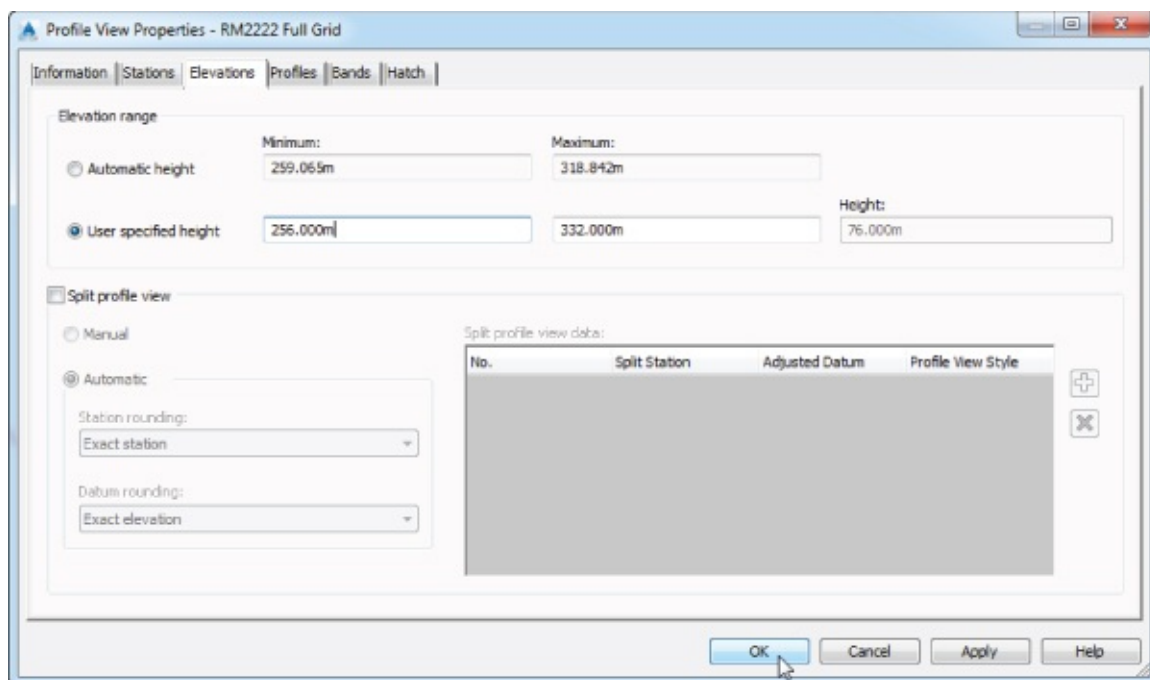

Figure 7.52 Modifying the height of the profile view
4. On the Elevations tab, in the Elevation Range section, check the User Specified Height radio button and set the maximum height to **1090** (or **332** for metric users), as shown in Figure 7.52.